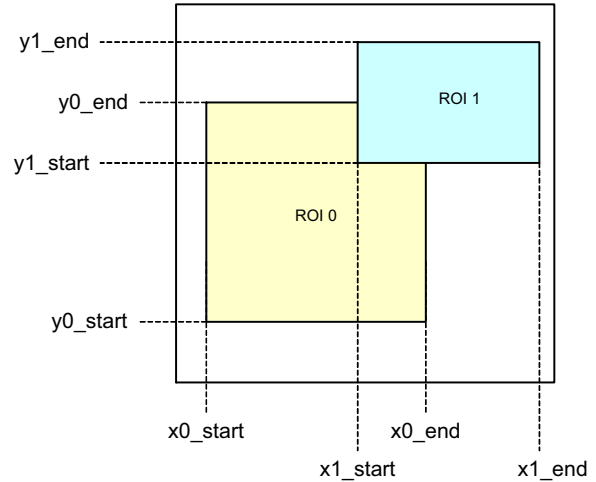

Figure 26. Overlapping Multiple Window Configuration
- Up to eight windows can be defined, possibly (partially) overlapping, as illustrated in Figure 26.